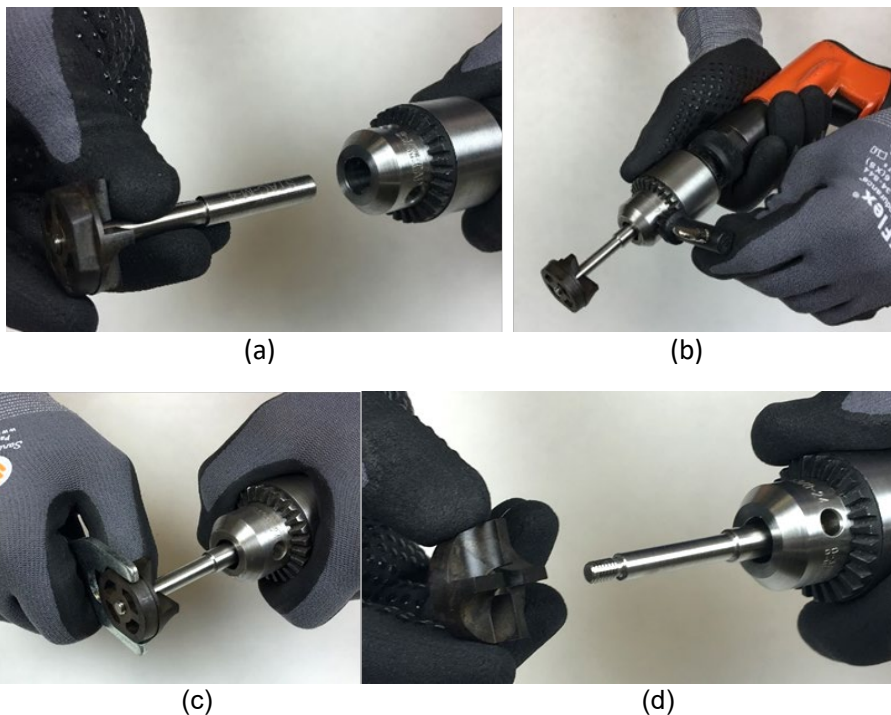

Figure 11. Removing Torlon Adhesive Cutters from the Standard Mandrel – Drill Motor
3.1.2. Removing Stuck Torlon Adhesive Cutters and Loosening Mandrel Segments (Figure 11)
- i. Re-chuck removed mandrel into the drill (Figure 11(a) and (b))
- ii. Using combo flat wrench, place on flat area of Torlon Adhesive Cutter (Figure 11(c))
- iii. Turn to loosen (Figure 11(d))